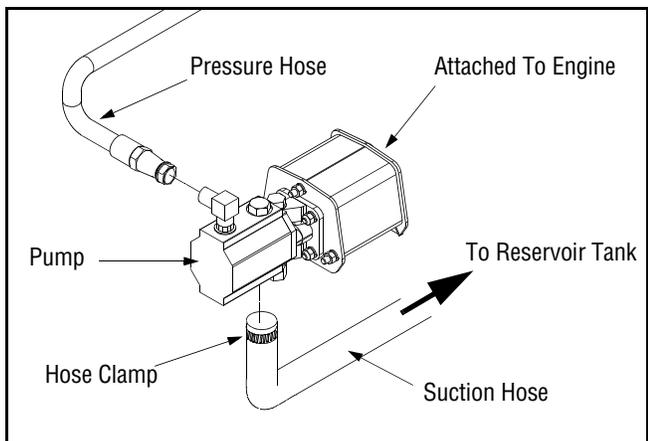

Figure 8
**Suction Hose (See Figure 8)**
**Pressure Hose (See Figure 8)**